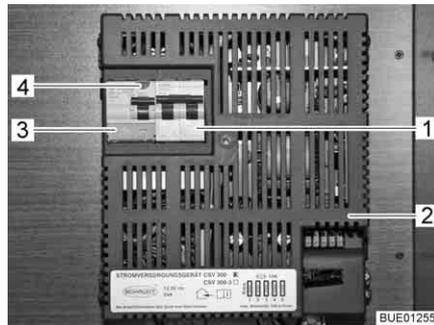

Fig. 131 230 V automatic circuit breaker and FI-switch (CSV 300)
A fault current protection switch (FI-switch) (Fig. 131,3) in the power supply unit CSV 300 (Fig. 131,2) protects the complete vehicle from fault current (0.03 A).
A downstream two-pole safety cut-out (Fig. 131,1) in the power supply unit protects the 230 V power supply.
- When the vehicle is connected to the 230 V power supply, press the test button (Fig. 131,4). The fault current protection switch (FI-switch) must trip.